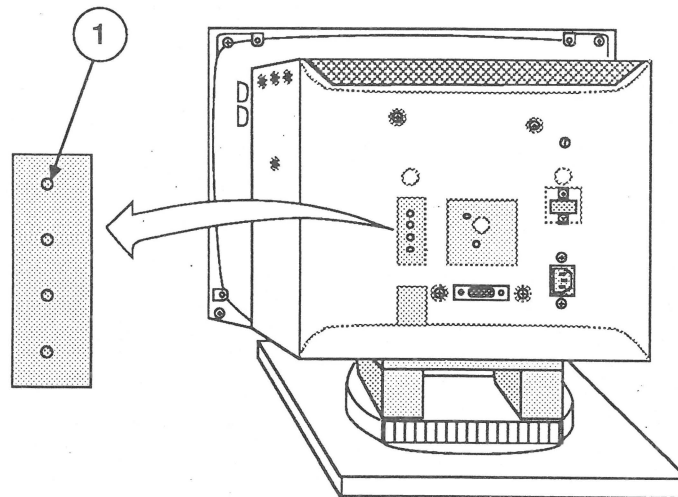

FIGURE 9
4. Now, measure the total width of the raster by placing a flexible ruler against the screen and aligning the zero at the left edge of the raster. Note the ruler measurement at the right edge of the raster. If necessary, use the plastic alignment tool to adjust the HORIZONTAL SIZE control (Figure 9, #1) until the total width of the raster is 15 inches.